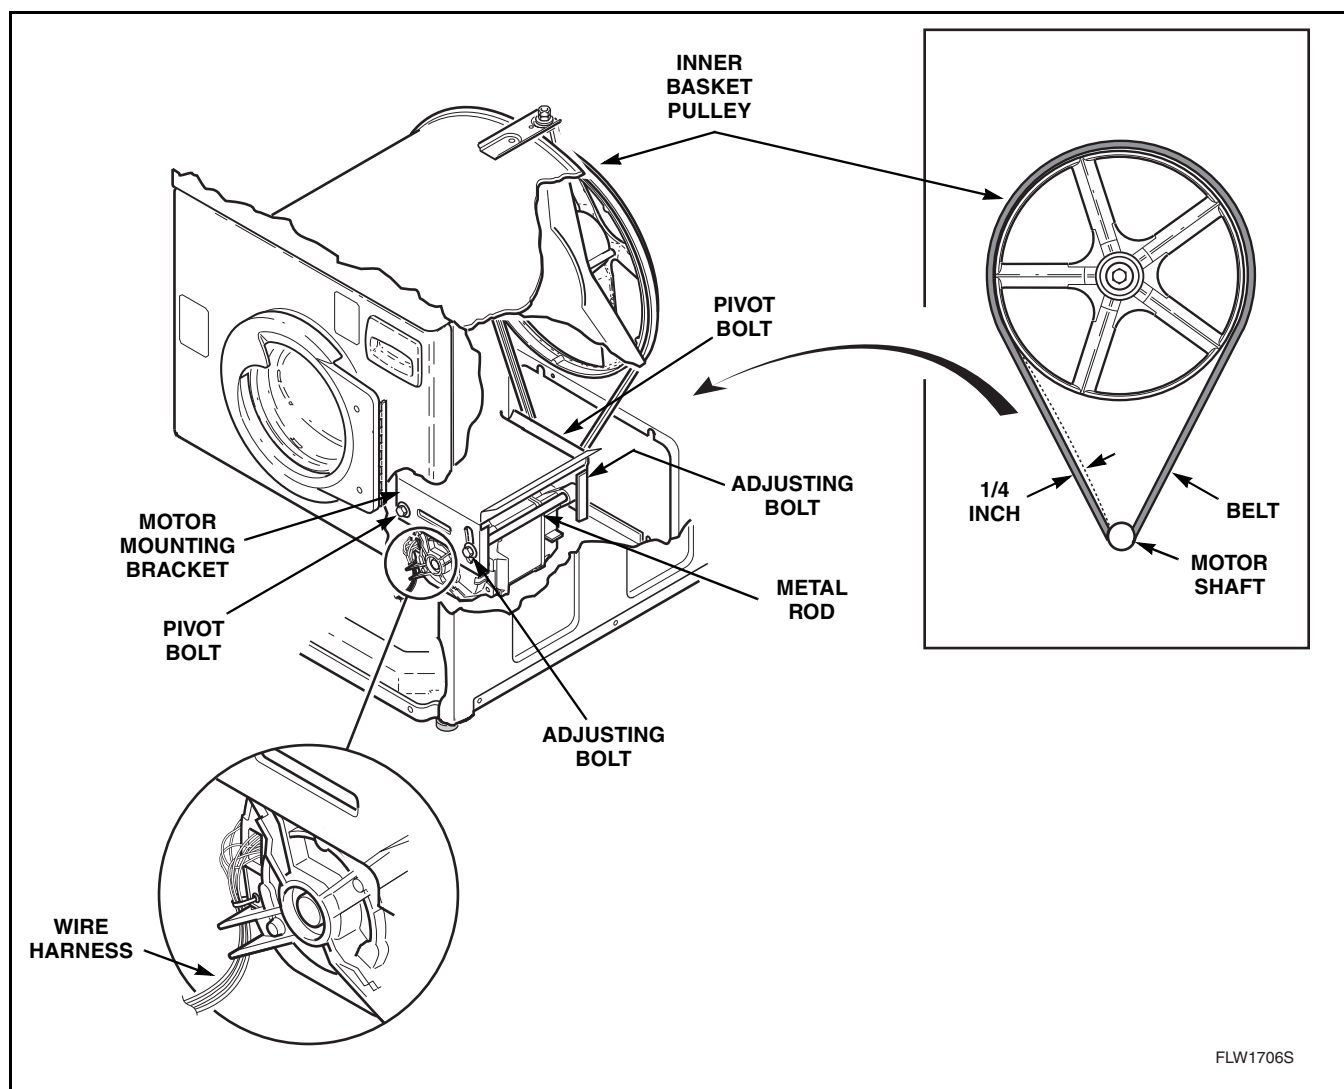

Figure 19
- d. Run belt off cylinder pulley while slowly turning pulley. Refer to *Figure 19*.
- f. Working through the front access door opening, place a locking pliers on the metal rod and loosen the two adjusting bolts. Repeat procedure to loosen the two pivot bolts. Refer to *Figure 19*.
- g. Pull down on motor to increase belt tension. Use a Burroughs belt gauge to obtain proper tension. Proper belt tension is obtained when belt can be deflected approximately 1/4 inch (6.35 mm) from normal position when moderate pressure 50 to 60 pounds (22.68 to 27.22 Kg) is applied to a point midway between pulleys. Refer to *Figure 19*.
- h. After proper belt tension has been obtained, tighten belt adjusting bolts firmly, then tighten pivot bolts. Refer to *Figure 19*.